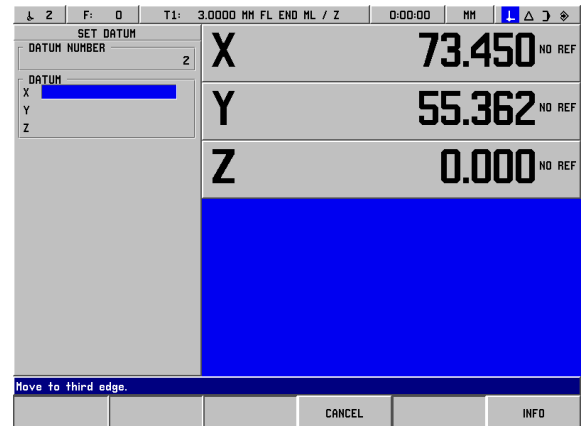
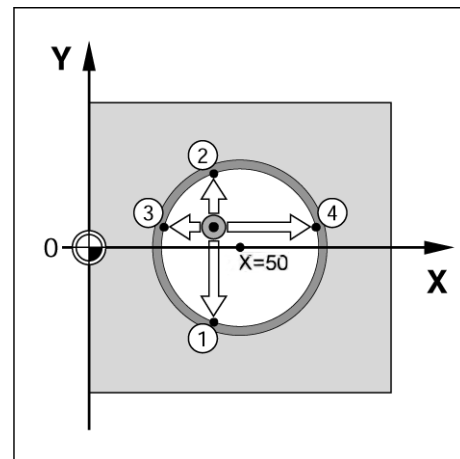

Fig. I.25 Setting the center of a hole
Fig. I.26
**Example: Probe the center of a hole with an edge finder and set the datum. Offsetting X-axis datum by 50 mm from center of hole. See Fig. I.25 & Fig. I.26.**